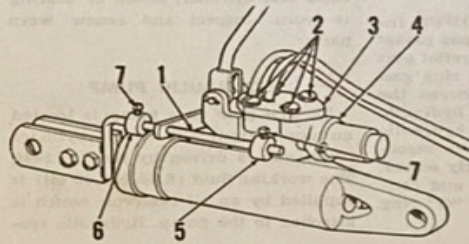

Fig. MH32—Pony hydraulic cylinder and control valve assembly.
70. Stops (5 & 6—Fig. MH32) may be adjusted to obtain the desired raised and lowered positions of the particular implement being used, by loosening the square head set screws (7) and moving the stops on rod (1). Adjust stop (6) to obtain the desired lowered position, and stop (5) to obtain the desired raised position.
71. It is recommended that hydraulic cylinder and control valve be removed from tractor as a unit so as to eliminate dirt and oil leakage which are inevitable if units are disassembled and reassembled on tractor. Remove cap from drain pipe in the oil reservoir and allow reservoir to drain. Remove hydraulic lines pad (3—Fig. MH32) from the control valve. Remove the two cylinder attaching cotter keys and pins and lower cylinder and control valve (as a unit) away from tractor. Separate control valve from cylinder by removing the two control valve attaching cap screws.